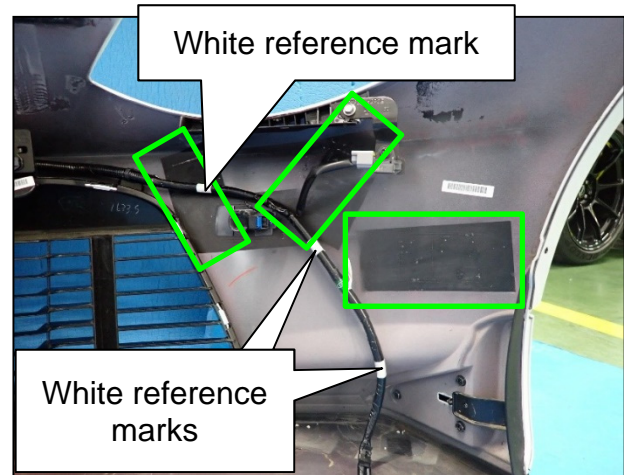
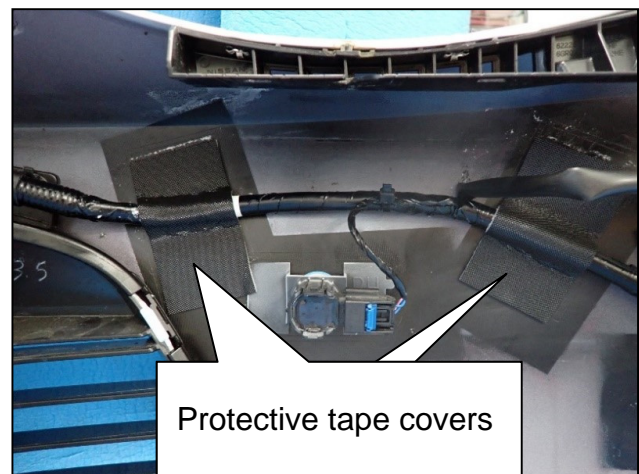
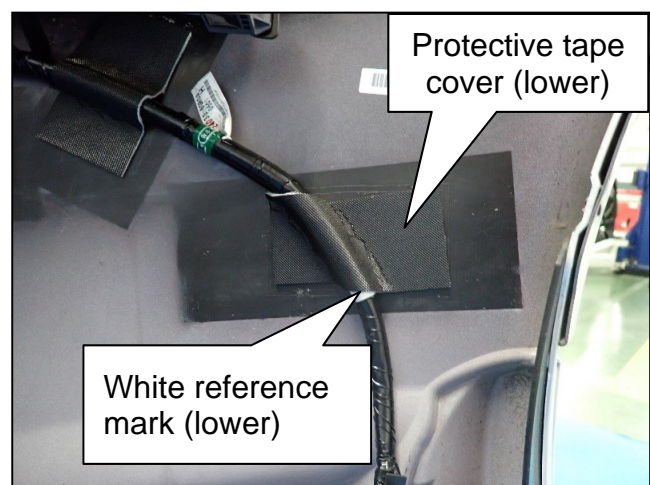

Figure 42
Figure 43
Figure 44
31. Install three (3) protective tape covers onto the passenger (RH) side front bumper fascia sub-harness in the areas shown in Figure 42.
- Align the three (3) protective tape covers using the white reference marks on the harness and the factory scribe lines on the backside of the front bumper fascia.
- Figure 43 and Figure 44 show the three (3) protective tape covers fully installed.